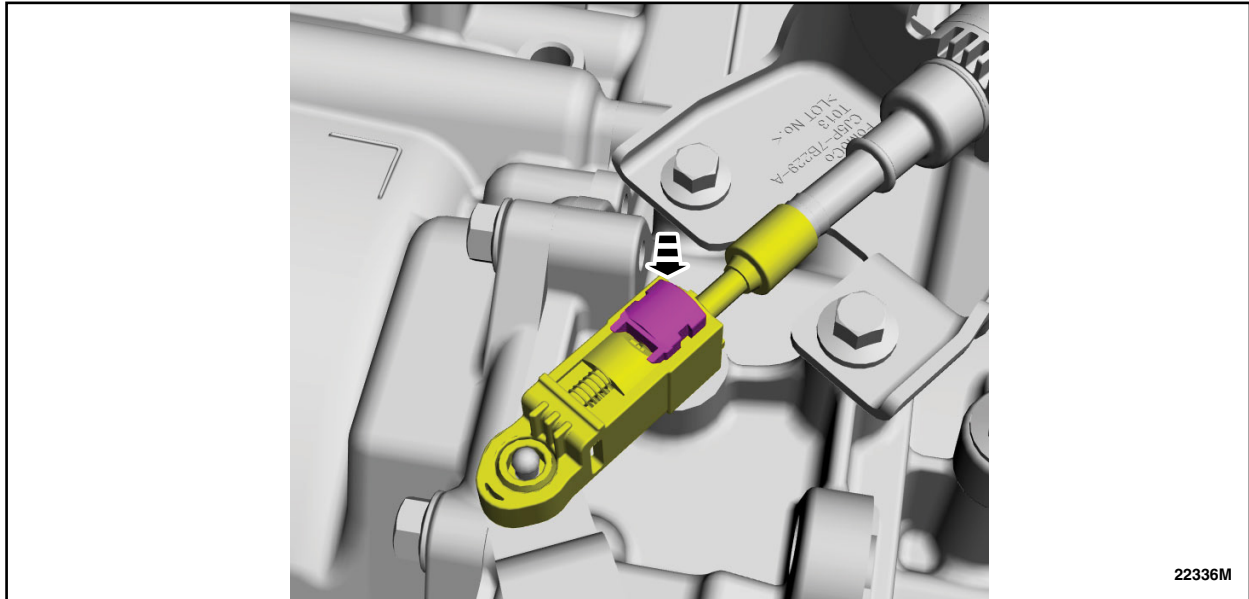

FIGURE 12
13. Slide the adjuster tab in place to lock the selector lever cable. See Figure 12.